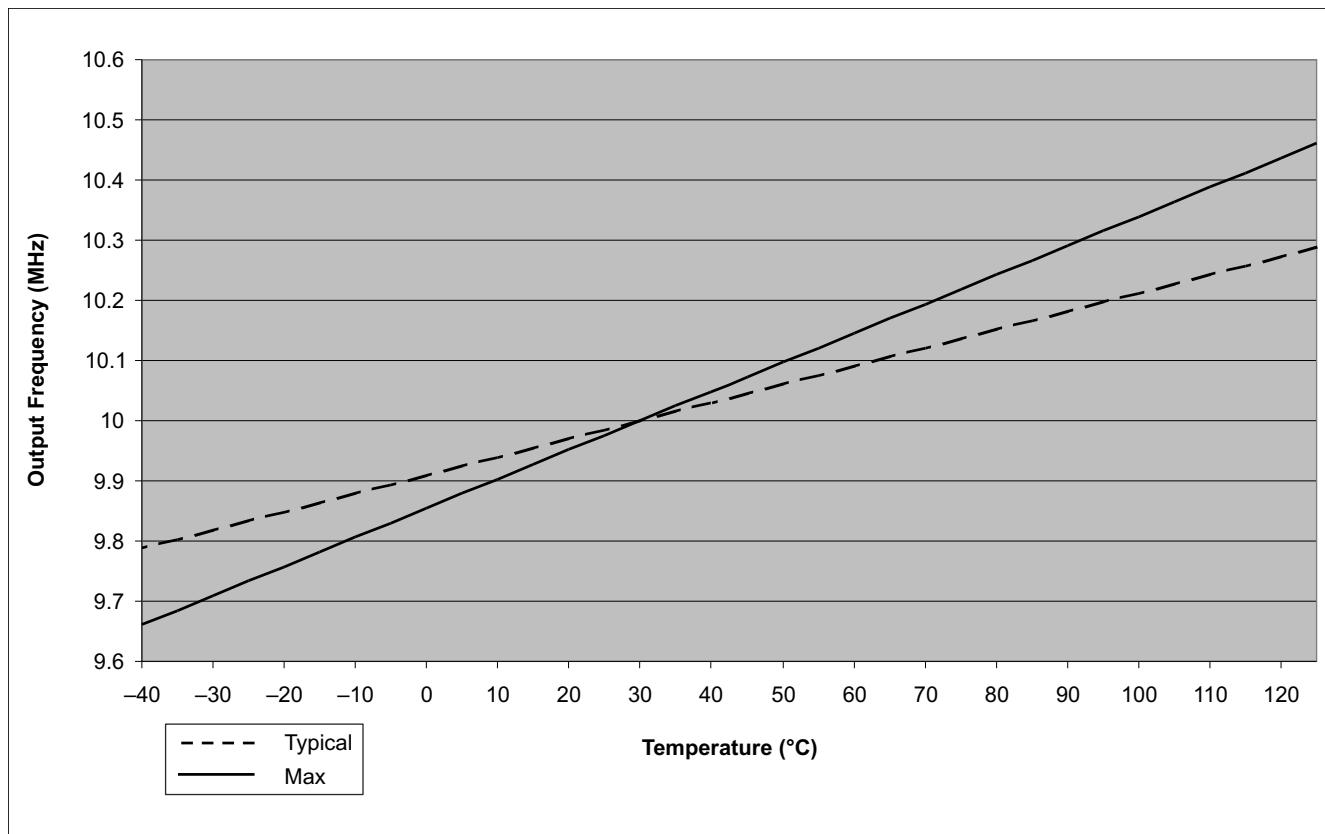

Figure 7-8. Zero-Pin Oscillator Frequency Movement With Temperature
(1) Oscillator frequency will vary over temperature, see Figure 7-8. To compensate for oscillator temperature drift, see the Oscillator Compensation Guide and C2000Ware. .
(2) Frequency range ensured only when VREG is enabled, $\overline{VREGEN} = V_{SS}$.
(3) Output frequency of the internal oscillators follows the direction of both the temperature gradient and voltage (V_{DD}) gradient. For example: